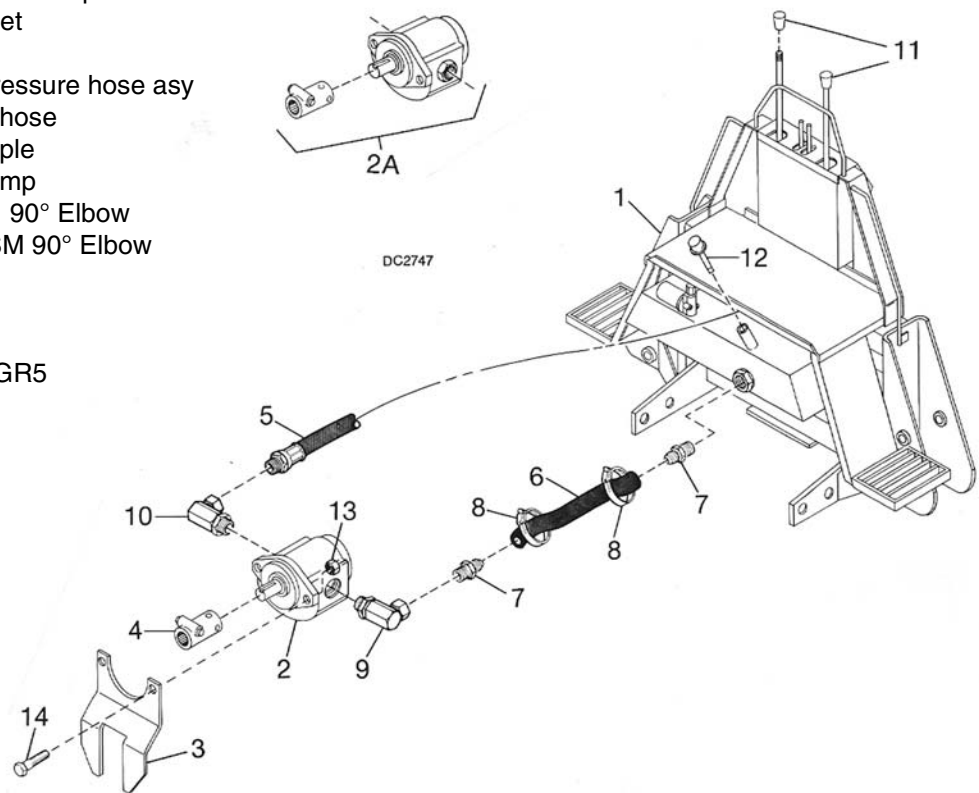

Figure 21. Pump Installation
Refer to Pump Mounting Bracket Installation in next section and attach mounting bracket (3) to pump with bolts (14) and lock nuts (13). Install tapered knobs (11) to control handles as shown in Figure 21.